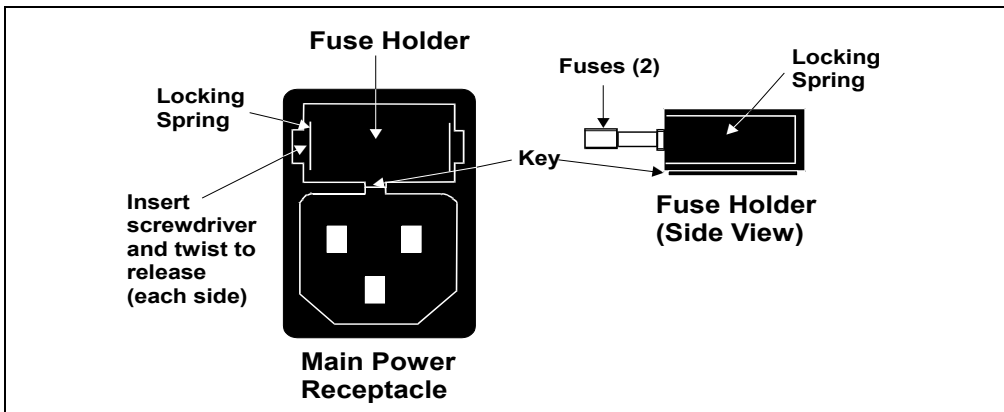

Figure 5-5. Main Power Fuse Holder
2. The fuse holder is part of the main power receptacle on the IS25 rear panel (see Figure 5-5). Note the recessed lock located on each side of the fuse holder.